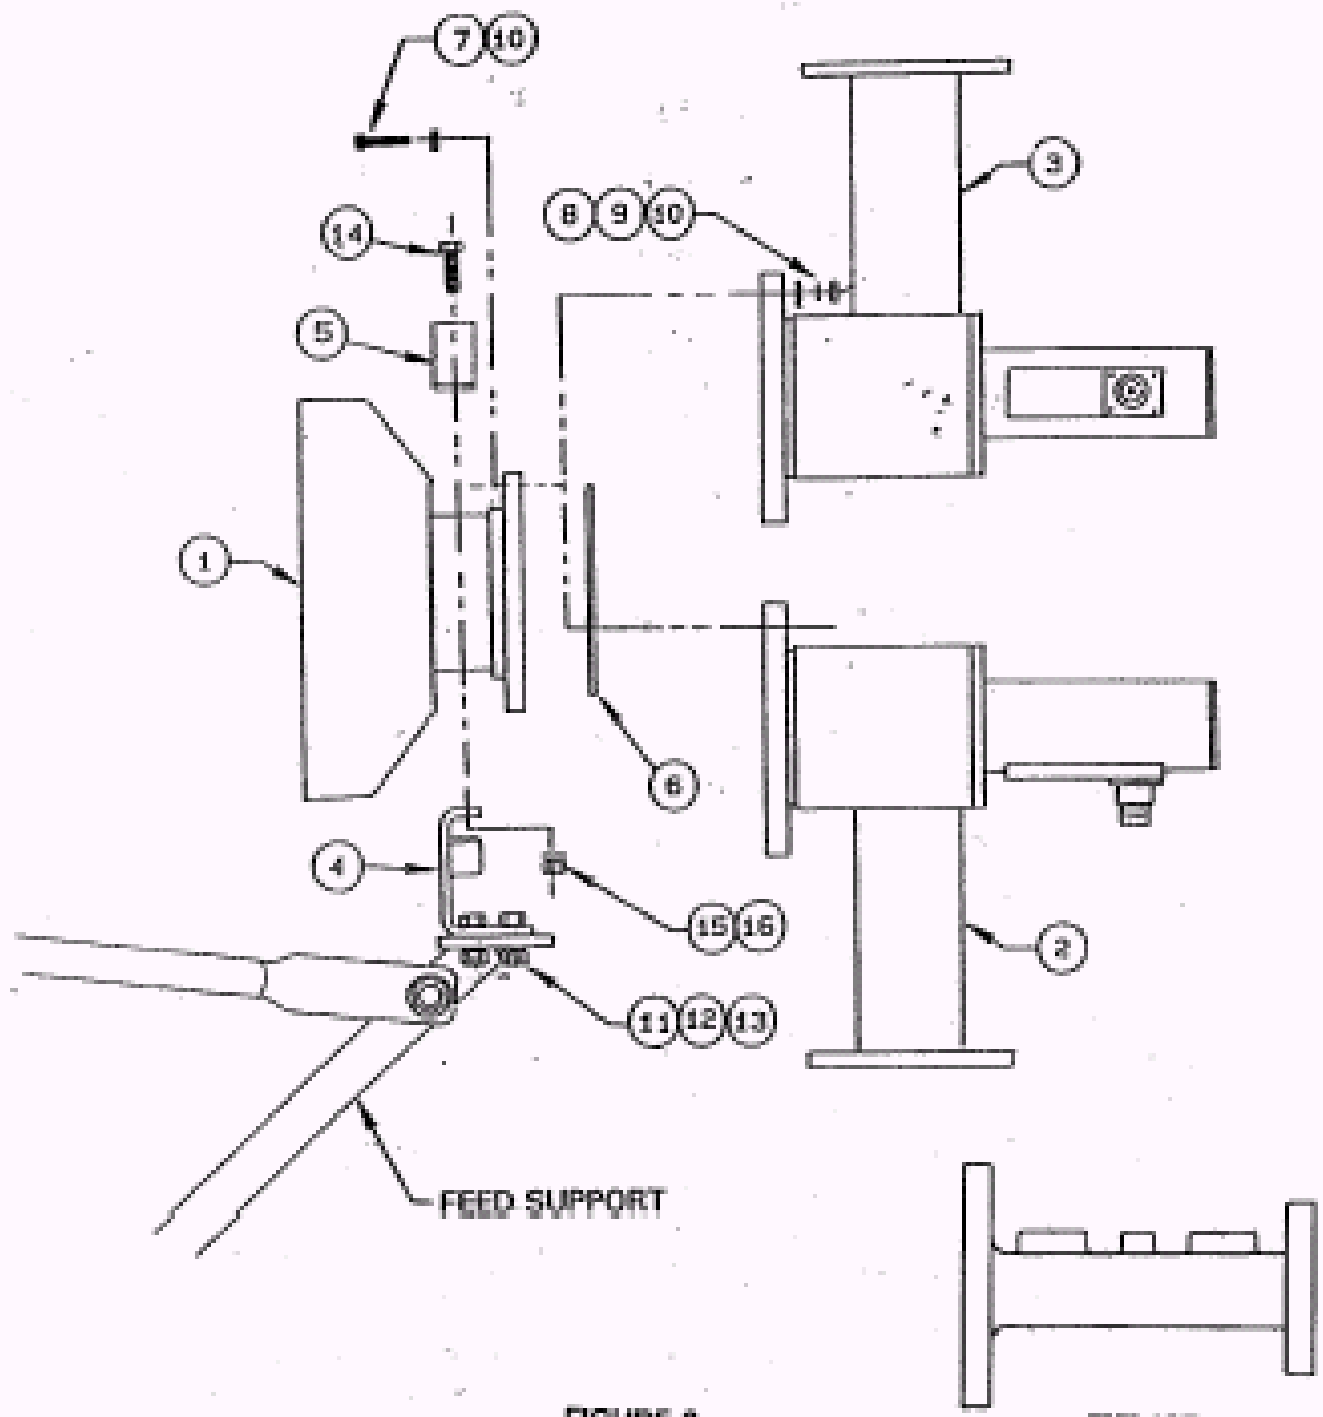

FIGURE 2
**STEP 1:** Apply silicone grease to the o-ring (item# 6) and place it in the groove in the OMT to be used. Mount the feed horn (item# 1) to the cross-pol OMT (item# 2) or co-pol OMT (item# 3) with [8] #10-24 x 1.25 screws, [16] #10 flatwashers, [8] #10 lockwashers, and [8] #10-24 hex nuts (item# 7,8,9,10). Tighten securely. **NOTE: The screws should be inserted from the feed horn side to prevent any interference.** See figure 2.